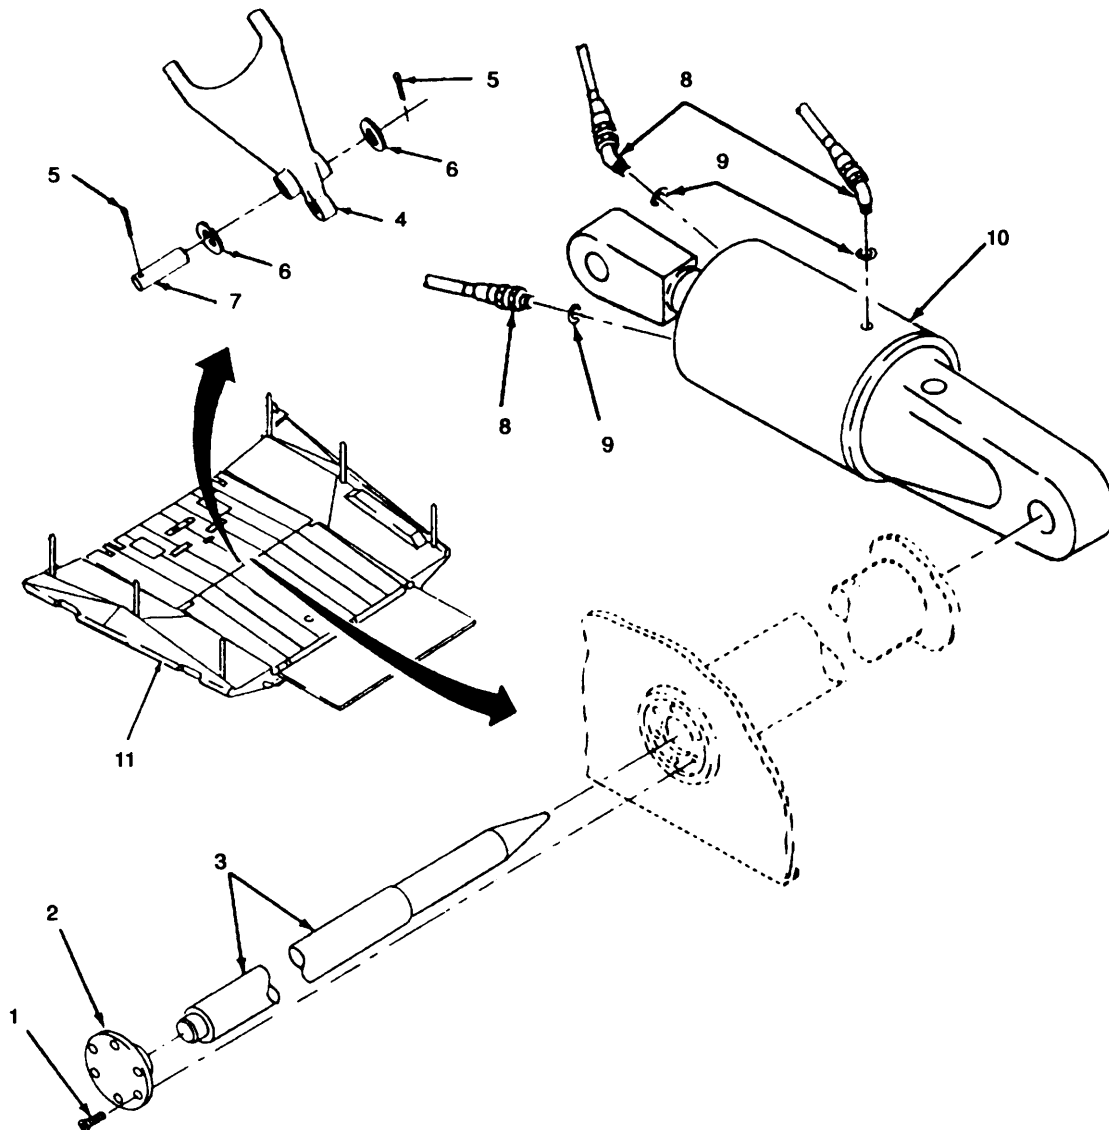

Figure 3-8. Hydraulic Cylinder and Piston, Replace.
a. *Replace.* (figure 3-8)
- (1) Remove six screws (NO TAG) and remove access cover (2).
- (2) Screw al/2 in. x 20 UNC thread eye bolt into top of cylinder retaining pin (3).
- (3) Remove retaining pin (3) using suitable lifting device.
- (4) Partially pull open yoke (4).
- (5) Remove cotter pin (5), washer(6) and remove pin (7).
- (6) Open yoke (4) fully and block in position.